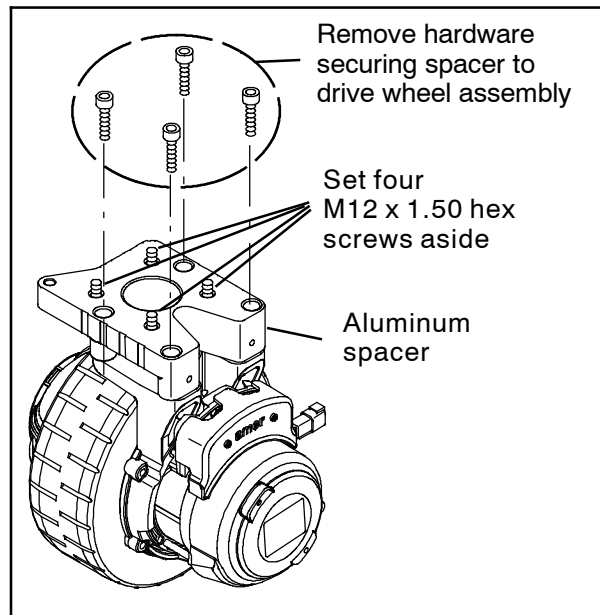

FIG. 3
4. Remove the four socket head screws securing the aluminum spacer to the drive wheel assembly. (Fig. 3)
5. Remove the aluminum spacer from the drive wheel assembly and remove the four hex screws and flat washers from the aluminum spacer. Discard the aluminum spacer and the rest of the drive wheel assembly. Set the four hex screws and flat washers aside. (Fig. 3)